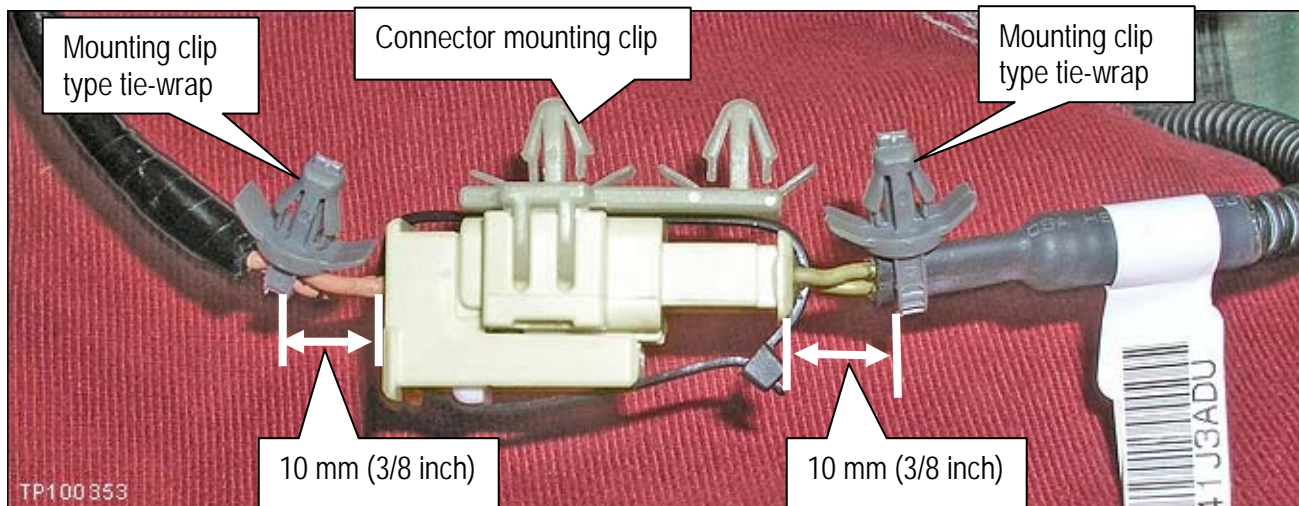

Figure 9
11. Reinstall the connector mounting clip (see Figure 9).
12. Install 2 “mounting clip type” tie-wraps as shown in Figure 9.